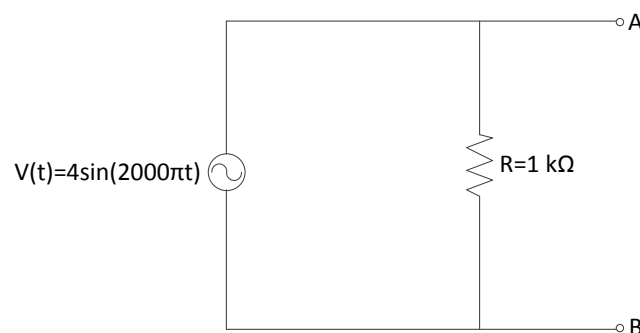

Figure 3
1. Connect the circuit as shown in Figure 3